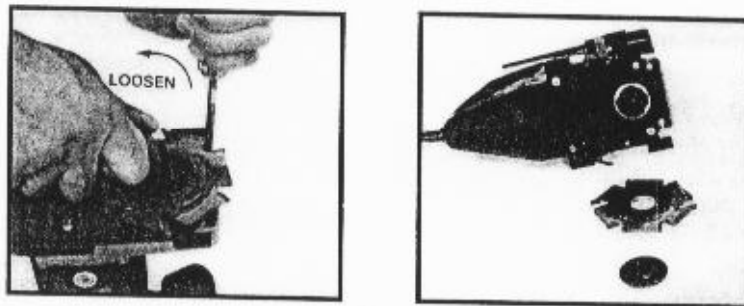

Fig.17
6. Place screwdriver through a blade gullet and into corner of tool housing (see Fig. 17) and hold while turning blade retainer counterclockwise with spanner wrench (furnished with machine) and remove.
9. Coat both blade flanges lightly with grease. Install new blade with teeth pointing to the left as shown in Fig. 17, and reassemble machine by reversing above procedure.